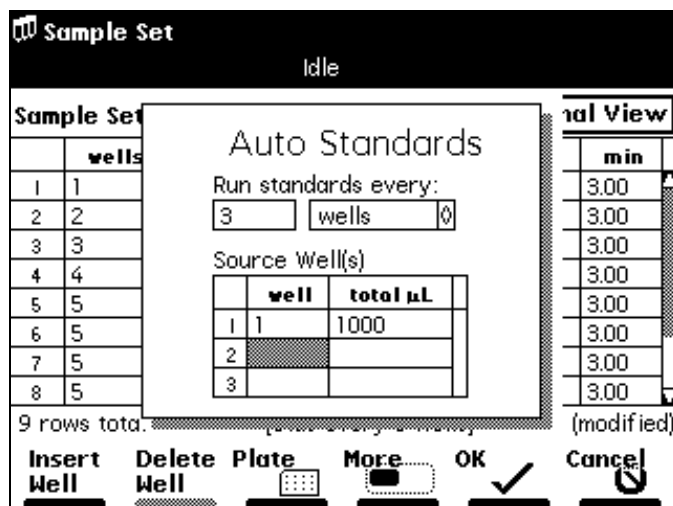

Figure 5-30 Auto Standards Dialog Box
1. In the Sample Set screen, select **AutoStd** from the drop-down list of functions, then press the **Row Details** screen key to display the Auto Standards dialog box (Figure 5-30).